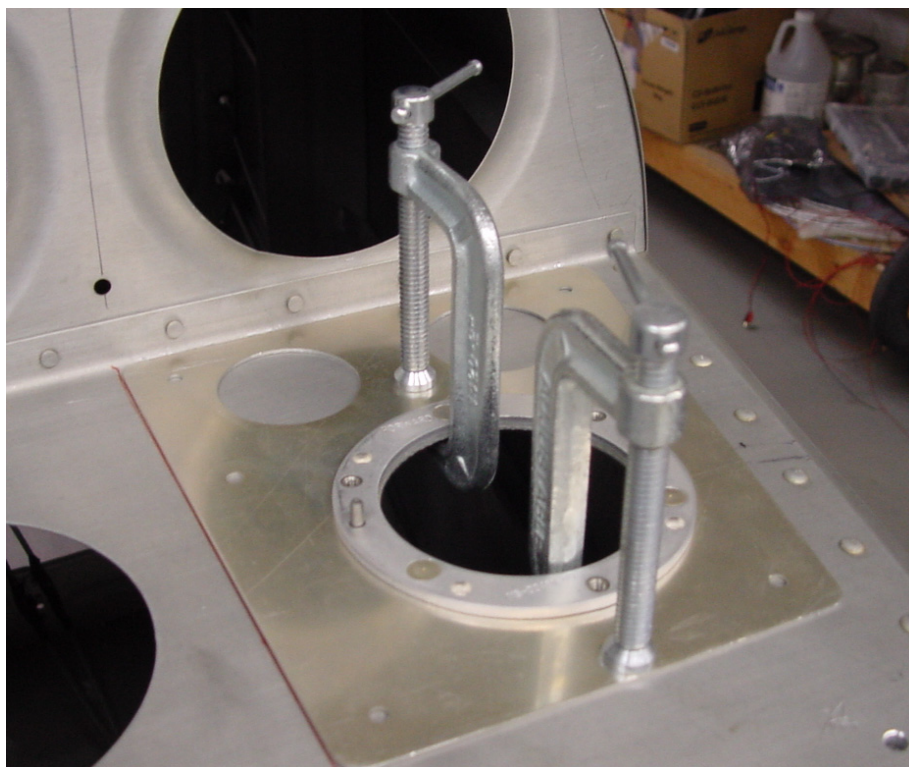

Figure A-2 RV-7/9 GMU 22 Mounting Bracket on the F714 Aft Deck
2. Place the GMU 22 mounting bracket on the F-714 aft deck (see Figure A-2).
3. Slide the GMU 22 mounting bracket forward, ensuring the front edge is against the vertical portion of the F-714 aft deck (see Figure A-2).